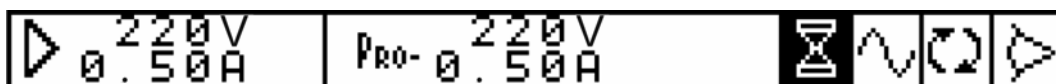

Fig. 4.4 Generator status line (modification/recalculation in progress)
4. “Sand glass” icons  displayed in inverse video (see Fig. 4.4) lets you know that modification/recalculation of the parameters is in progress, and further operation is suspended till this comes to the end. Without the icon, the Generator is ready to respond to your further actions, such as modification of some other parameter.